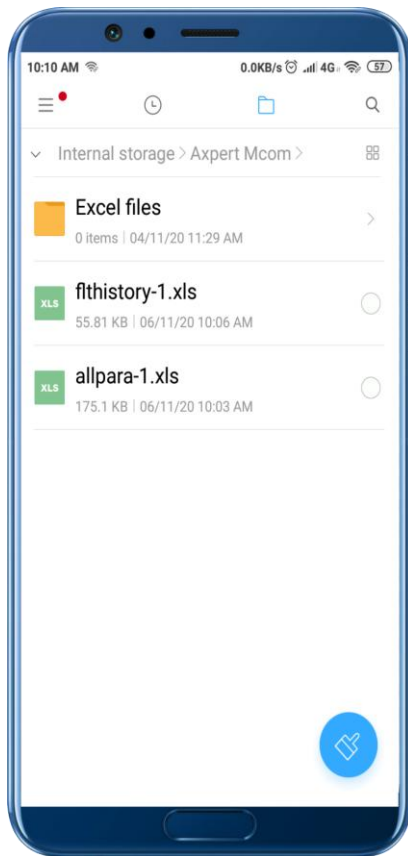

Figure 23: File in “Expert MCom” folder
- File will be created in “**Axpert Mcom**” folder in internal storage memory of mobile phone once the copy/download operation is completed. User can navigate using File Manager to access the file (Figure 23).